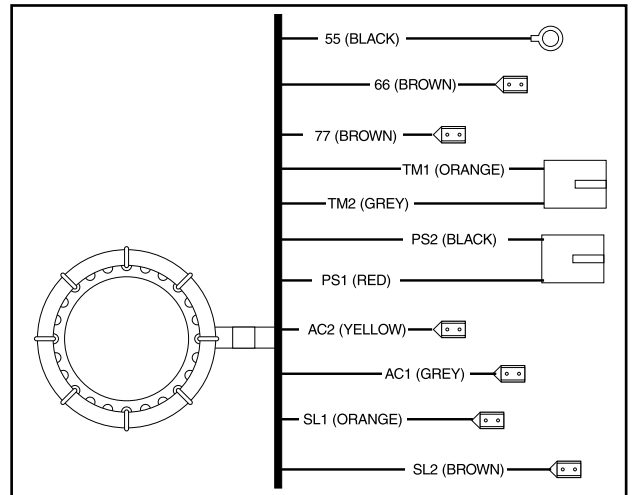
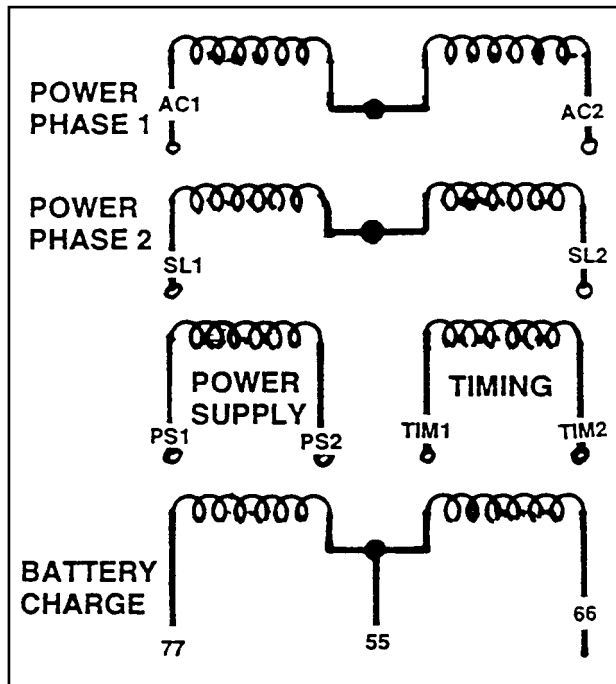

Figure 2. Stator Leads
Figure 3. Schematic - Stator Windings
Figure 2 on the previous page shows the Stator leads that are brought out of the Stator. Figure 3 is a schematic representation of the eight (8) Stator windings. To test for shorts between windings, proceed as follows: